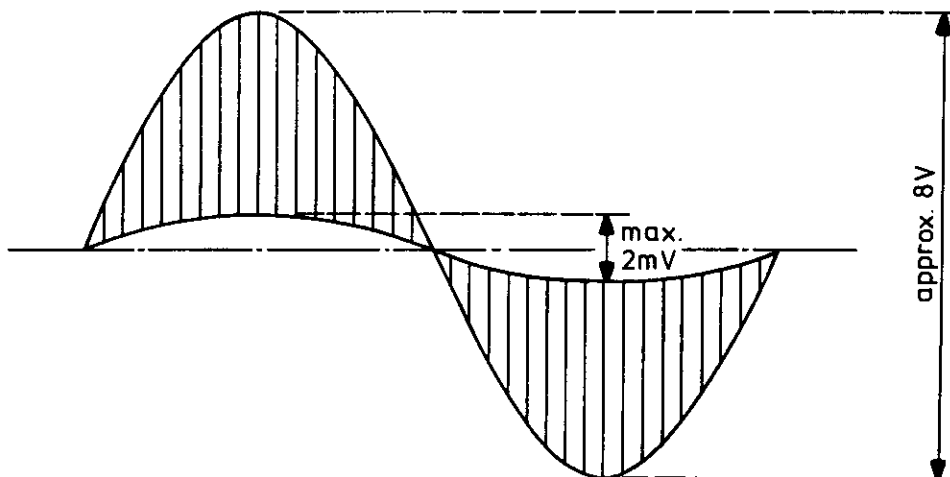

Fig. E2a Separation
signal, see Fig. E2a and b.
If you are not able to adjust the symmetry of the peak value of the 1 kHz signal in respect to the composite signal zero line to within  $\leq 2$  mV, or if the phase differs from that given in Fig. E2a and b, the following may help to determine the reason.
- A. The 1 kHz is in phase with the envelope of the composite signal (see Fig. E2a).
- a) C144 between the Composite filter and the Comp.Out Amplifier is defect - the value too small, as in the curve form shown in Fig. E2a.
- b) The oscilloscope is in the ac mode. See the curve form shown in Fig. E2a.